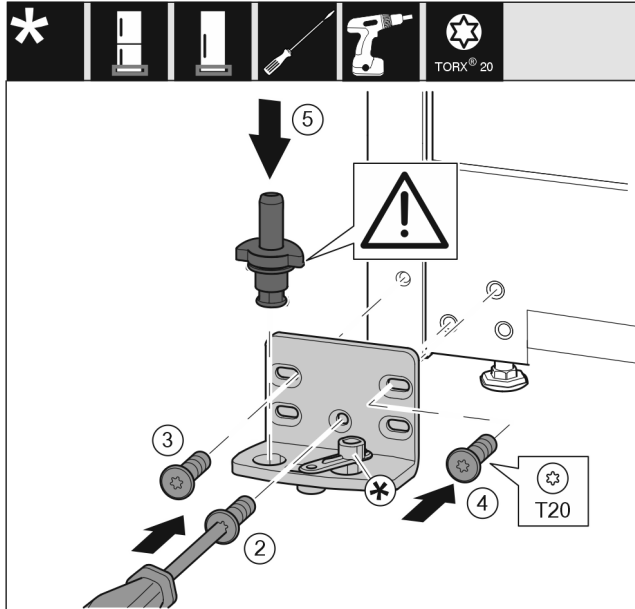

Fig. 16
- ▶ Place the bearing bracket on the other side and screw it in using the T20 screwdriver. Start with screw 2 at the bottom in the middle. Fig. 16 (2)
- ▶ Screw in screws 3 and 4. Fig. 16 (3,4)
- ▶ Insert the bearing pin completely. Make sure that the latching lug is pointing to the rear. Fig. 16 (5)